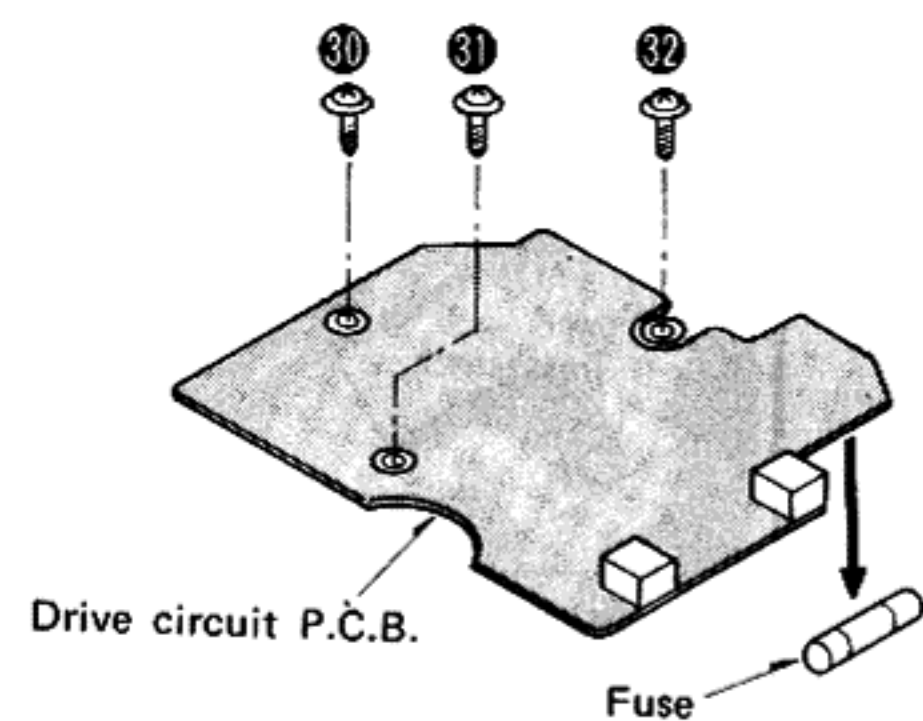

Fig. 10
2. Remove the 3 setscrews (Fig. 10: 30~32) of the drive circuit P.C.B.